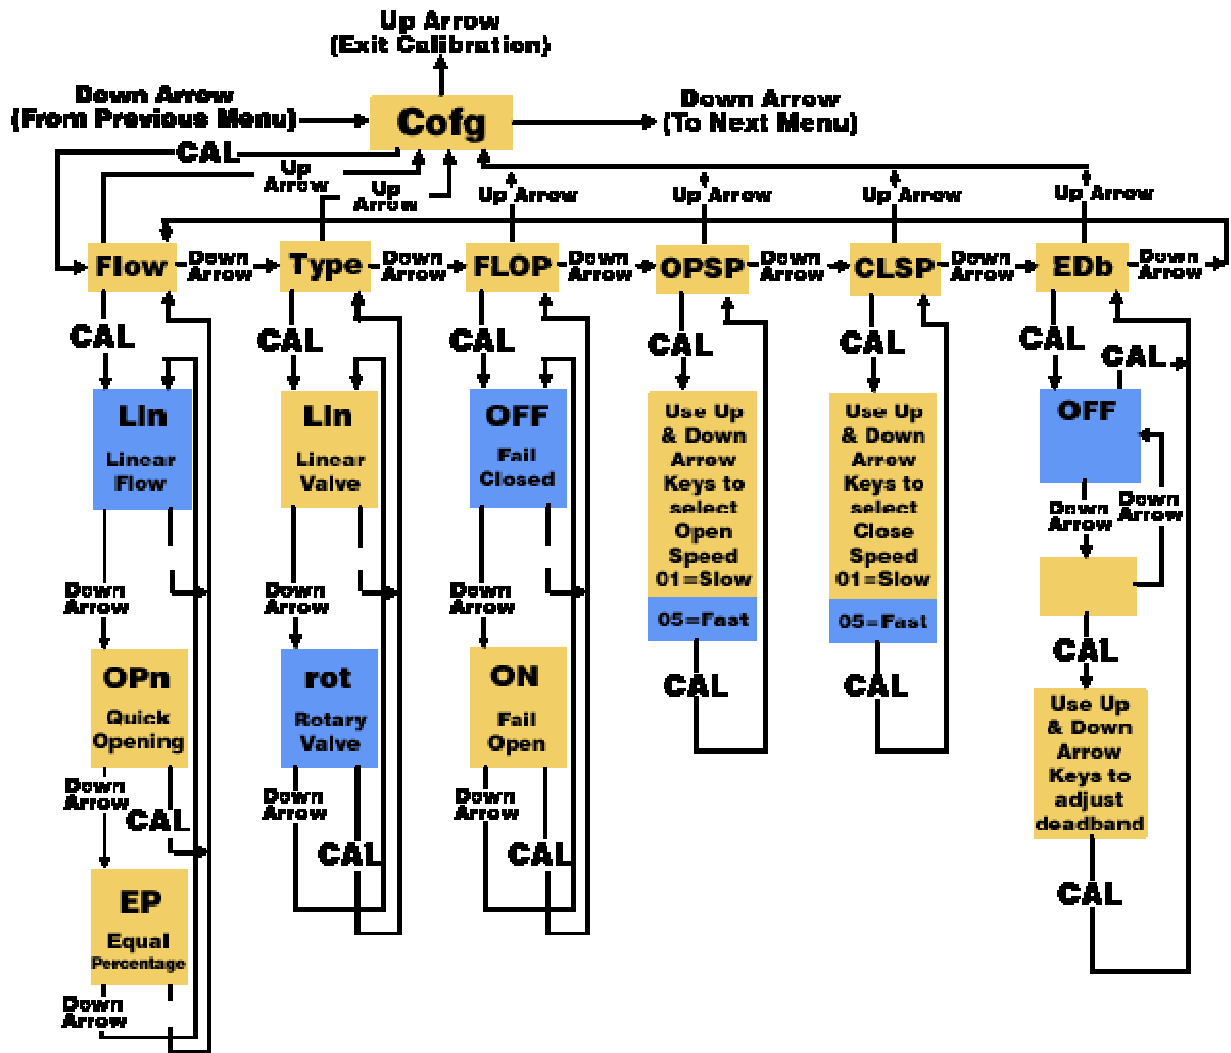

Figure 23
15.2.1. From the menu level press the down arrow button until the **Cofg** (Configuration Menu) is shown on the display (Configuration Routine shown in Figure 23 below).